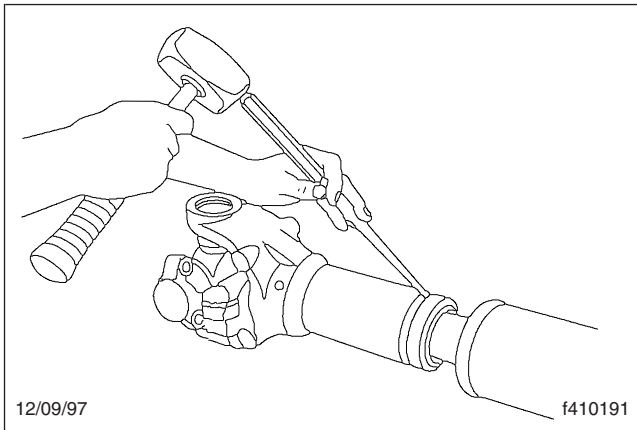

Fig. 11, Shroud Removal
2. With the driveshaft uncoupled at one end, or removed from the vehicle, use a brass hammer and punch to tap the shroud off the slip seal. See Fig. 11.